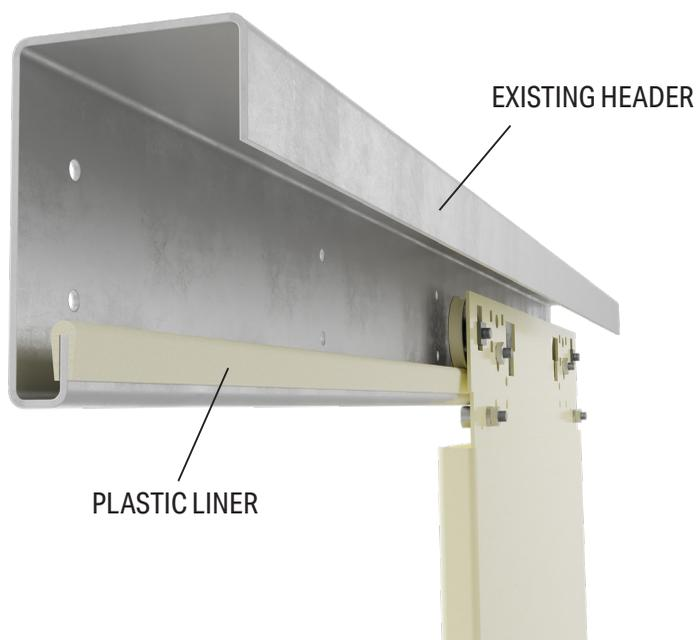

Figure 2: Existing Plastic Track Liner
- Once the door has been lowered and moved back from the existing track, remove the Plastic Track Liner from the Existing Header, as shown in **Figure 2**. Be careful to remove any pins that are securing the liner. It should easily be pried off.